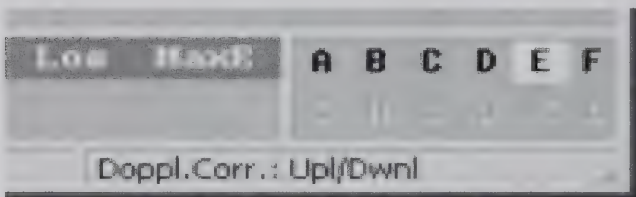

Figure 9.
A) Selecting a Satellite: In the bottom right corner appear the letters A to L. SatPC32 allows you to have up to 12 satellites in one satellite group. Click on a letter from A to L and the assigned satellite will be displayed. If less than 12 satellites are defined in the current group, the unused letters will be grayed out. If a letter is highlighted, as is "E" in Figure 9, the corresponding satellite is in range.